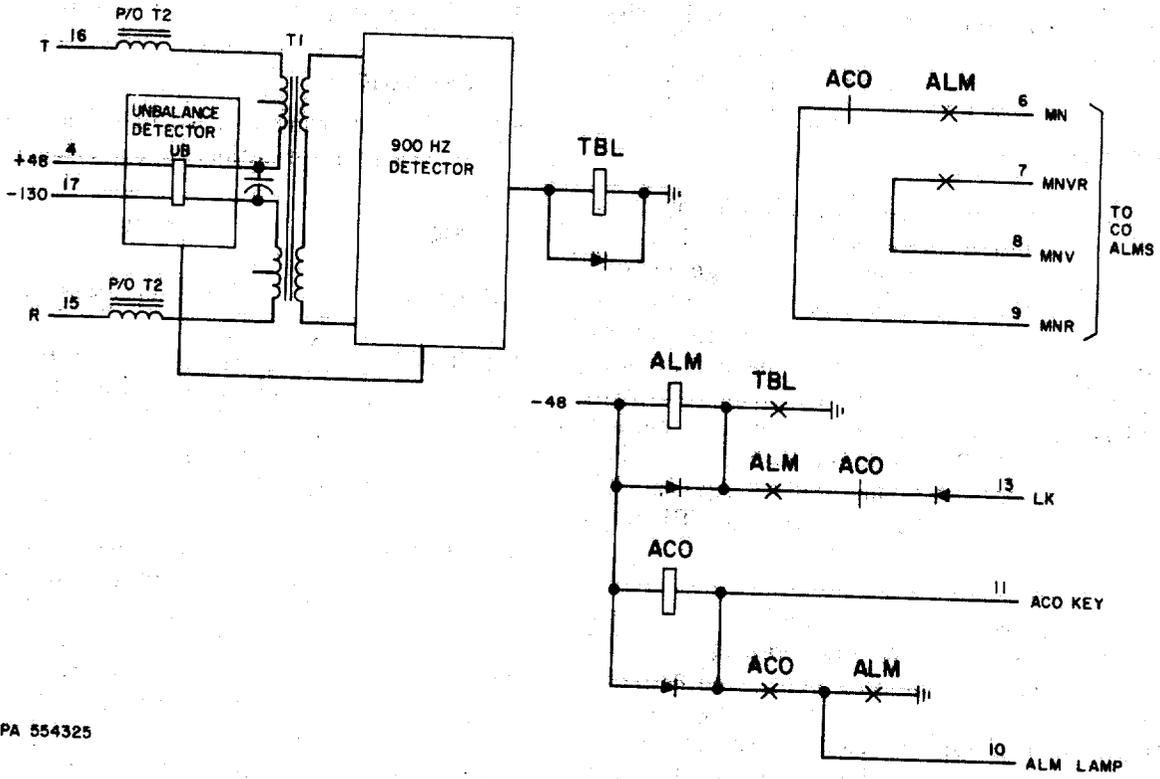

Fig. 6—Central Office Power and Alarm Circuit
3.05 The power and alarm circuit (Fig. 6), located at the central office, supplies power for operating the E6 repeaters in the remote cabinet.